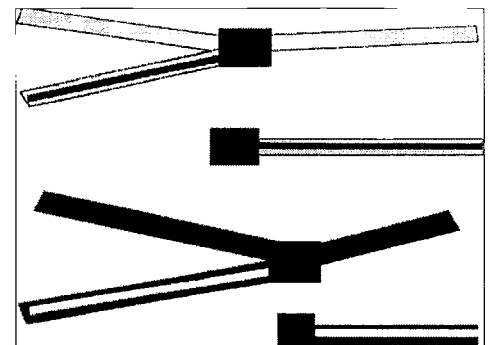

Figure 4
10. Locate the yellow wire w/black stripe coming from the front of the chassis. This portion or the wire will not be reused. Cap off this wire with a heat shrink butt connector or the equivalent. (Figure 4)
11. Repeat step 10 for the dark green w/white stripe wire coming from the front of the chassis. (Figure 4)